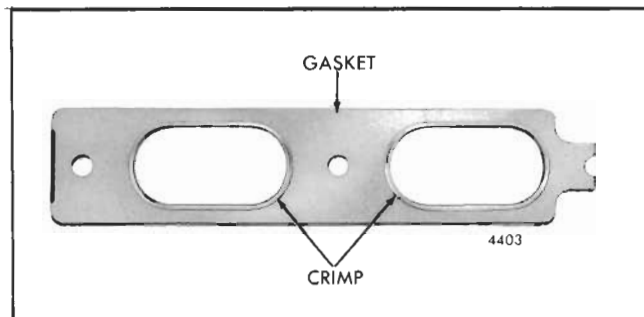

Fig. 2 - Metal Clad Exhaust Manifold Gasket
**CAUTION:** When installing the metal clad exhaust manifold gasket(s) be sure the crimped side of the gasket (Fig. 2) faces the cylinder head.